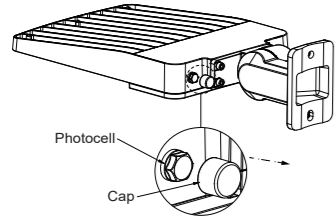

Figure 18 (150W/200W)
1. When the photocontrol function is required, remove the photocontrol cap along the dotted line. When ambient illuminance drops below 30–130 lux, the photocontrol function activates automatically. See Figure 18.